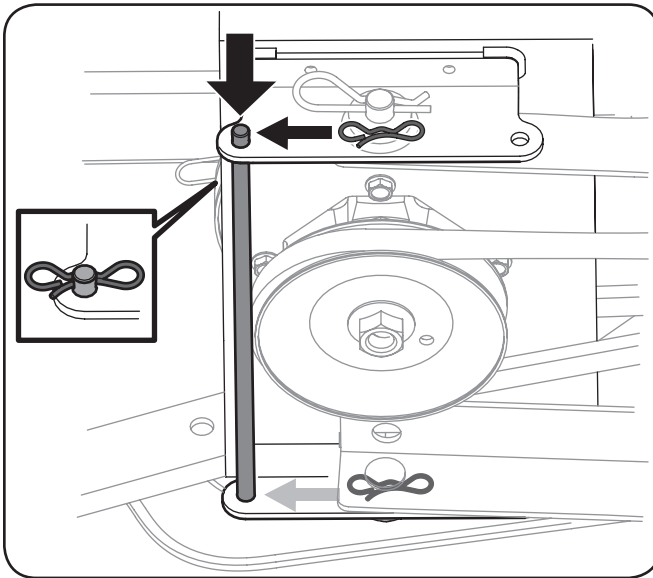

Figure 3-26
7. Reinsert the rod into the rear of the carriage assembly and secure it in place with the two hair pin clips removed in step 2 of Mounting the Carriage Assembly on page 9. See Figure 3-26.